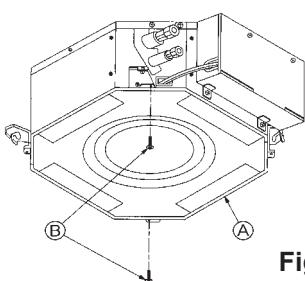

Fig. 8-5
8.3.1. Preparations (Fig. 8-5)
⑮ Main unit
⑯ Detailed diagram of installed screw with washer (accessory).